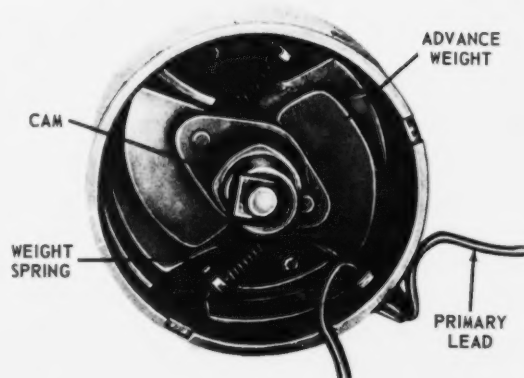

Fig. 47—Centrifugal Advance Mechanism
Basically, an *advance mechanism* (Fig. 47) is a device which times the ignition spark to occur at a certain time determined by engine speed. Why is a spark advance necessary?
6. Check the centrifugal advance mechanism (See Fig. 47). Turn the distributor shaft in the direction of normal rotation. It must rotate freely for a short distance and return to its original position when released. If it doesn't, have it checked by a service shop.